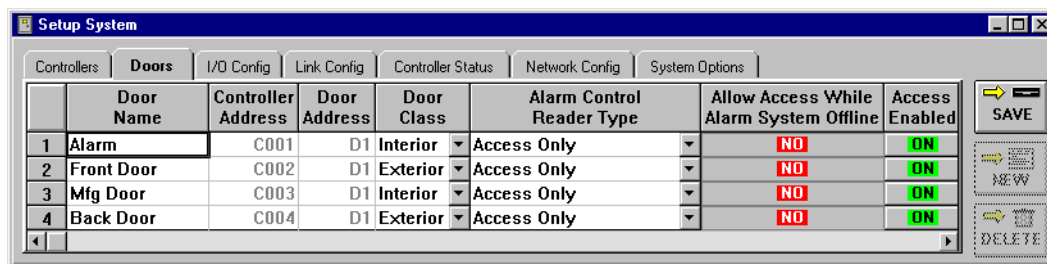

Figure 19: Setup System - Doors Tab
Once the Alarm Control feature has been enabled and the access control network has been updated, two columns (Alarm Control Reader Type and Allow Access While Alarm System Offline) are added to the **Doors** tab in the Setup System window (see Figure 19). These columns allow for specific configuration of the readers associated with the Alarm Control panel.
1. To assign an Alarm Control Reader Type, click on the Setup ⇒ System pull-down menu or click the  button on the tool bar. Then click on the **Doors** tab. The Doors window appears (see Figure 19).